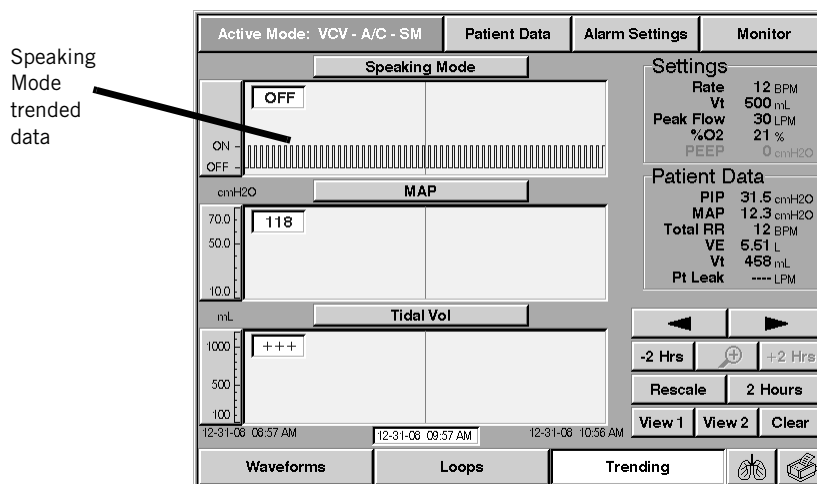

Figure 13-68: Speaking Mode Trended Data Screen
2. Press the **Speaking Mode** button to show trended data options available in Speaking Mode (Figure 13-68).